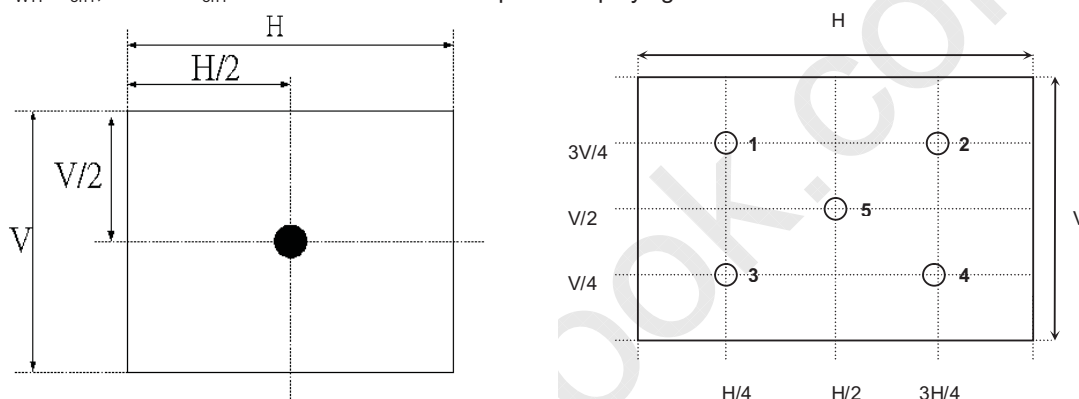

Fig.4-2 Optical measurement point
2. Surface luminance is luminance value at point 1 across the LCD surface 50cm from the surface with all pixels displaying white. From more information see Fig. 4-2. When  $V_{DDB} = 24V$ ,  $I_{DDB} = 6.4A$ .